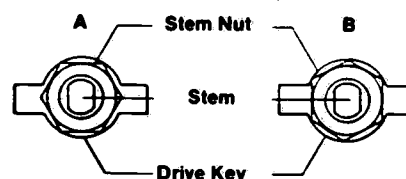

Figure 7-7. HEX/DRIVE KEY RELATIONSHIP.
7. Check the orientation of the stem nut to the drive key. In order to achieve the desired orientation loosen the nut until the hex/drive key relationship corresponds to either A or B of Figure 7-7. This should not require more than one-twelfth ( $1/12$ ) turn of the nut.